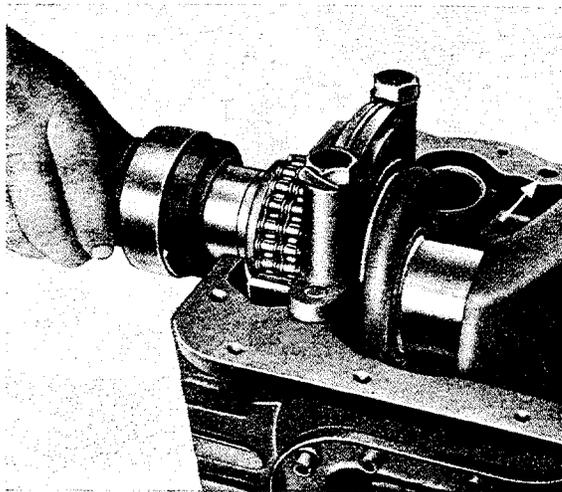

Fig. M 3/53a
When installing the grease retainer, use insertion sleeve with pressure piece 187 589 04 61 to ensure that the sealing lips will not be damaged (Fig. M 3/53a). The collar half of the grease retainer must abut snugly against the cylinder crankcase.
**Note:** Before pushing on the grease retainer, fill the space between the two sealing lips with heat-resistant grease (see Fig. M 3/53). In engines not provided with an oil thrower, the spacer ring is longer by the thickness of the oil thrower (0.75 mm = 0.0295"). Keep this in mind as there may be not enough space left to properly tighten the collar screw securing the counterweight on the crankshaft.